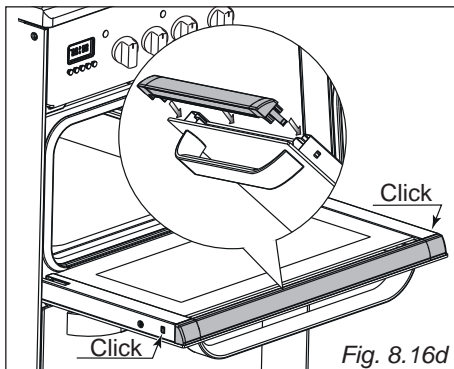

Fig. 8.16d
- Gently push the glass retainer back into place. You should be able to hear the tabs on both sides click as they lock the glass retainer in (fig. 8.16d).